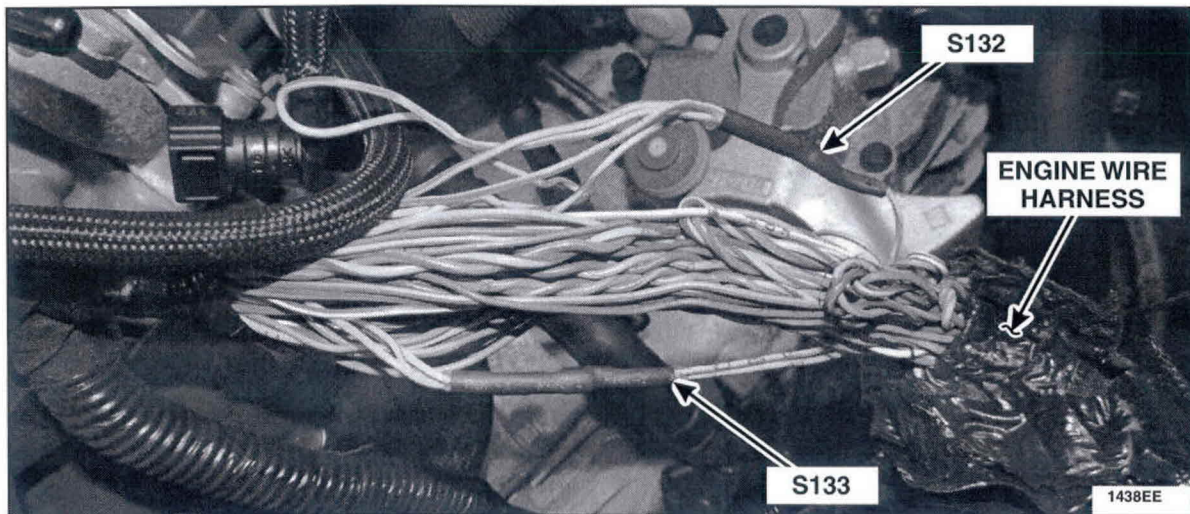

FIGURE 6
10. Locate splice S132 and S133. See Figure 6.
- S132 is a one (1) wire into four (4) wire splice with Yellow/Green wires.
- S133 is a two (2) wire into three (3) wire splice with Yellow/Violet wires.